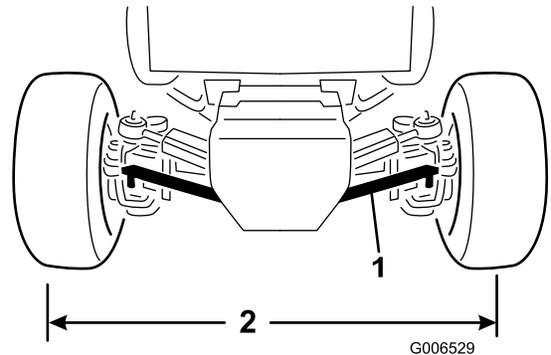

Figure 59
2. Remove nuts securing one tie rod ball joint to the mounting bracket on the axle and disconnect the ball joint from the axle (Figure 59).
4. Rotate the tie rod ball joint in or out until the center-to-center distance at front and back of rear wheels is the same (Figure 59).